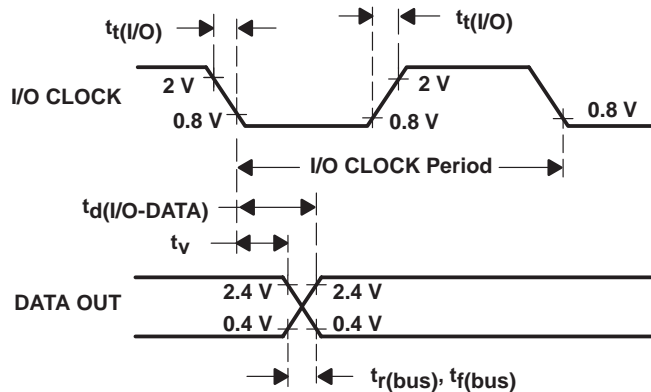

Figure 5. I/O CLOCK and DATA OUT Voltage Waveforms
- I/O CLOCK period = 1/(I/O CLOCK frequency). Sampling begins on the falling edge of the third I/O CLOCK, continues for seven I/O CLOCK periods, and ends on the falling edge of the 10th I/O CLOCK (see Figure 5).